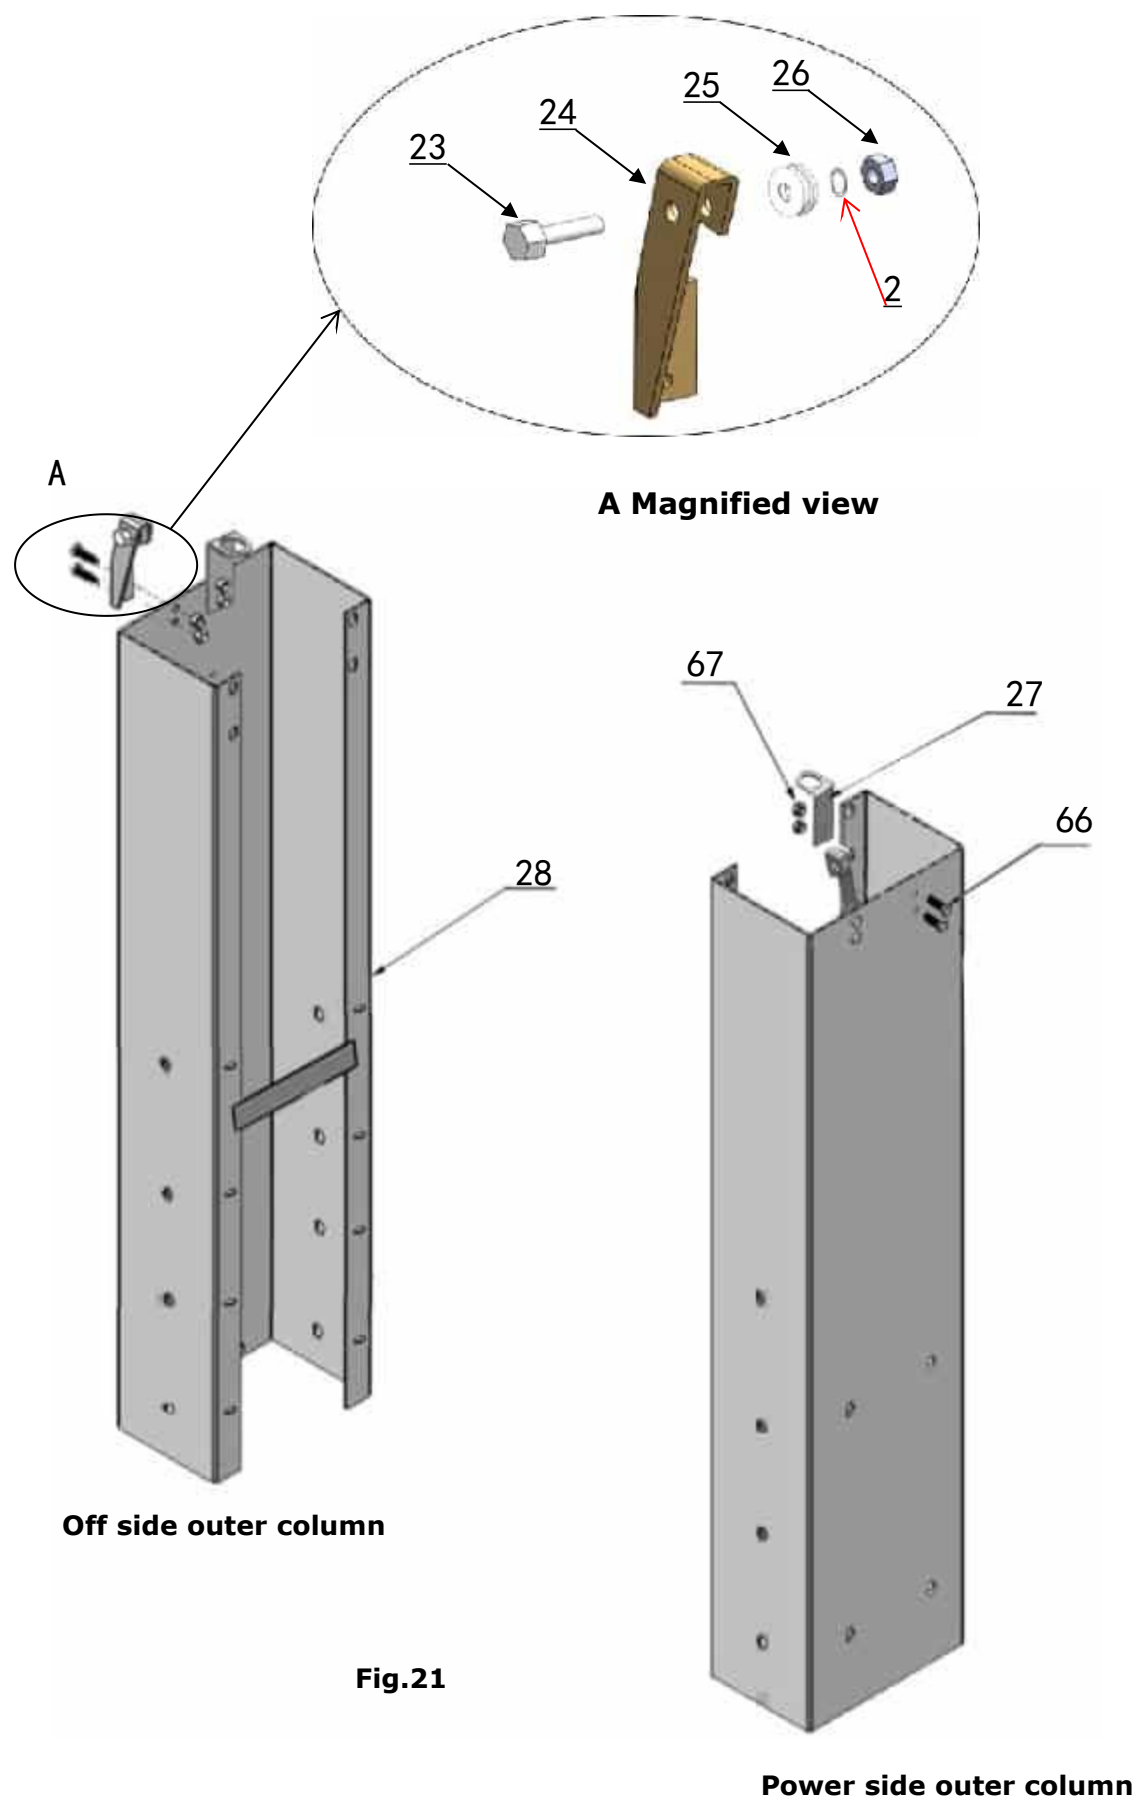

Fig.21
2. OHX-10H installation of outer column parts. Fig. 21